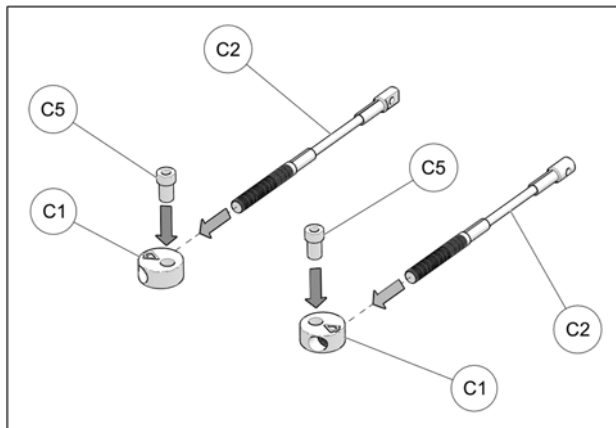

Fig. 17
10. Assemble steering limiter cables (C2), aluminum disks (C1) and step spacers (C5) as shown on Fig. 17